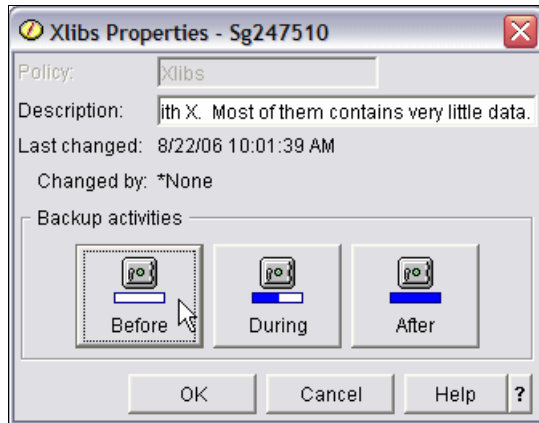

Figure 6-72 Backup Policy Properties - Before tab
2. The backup properties are divided into three categories (Figure 6-72):
4. We come back to the Properties panel (Figure 6-72 on page 192).